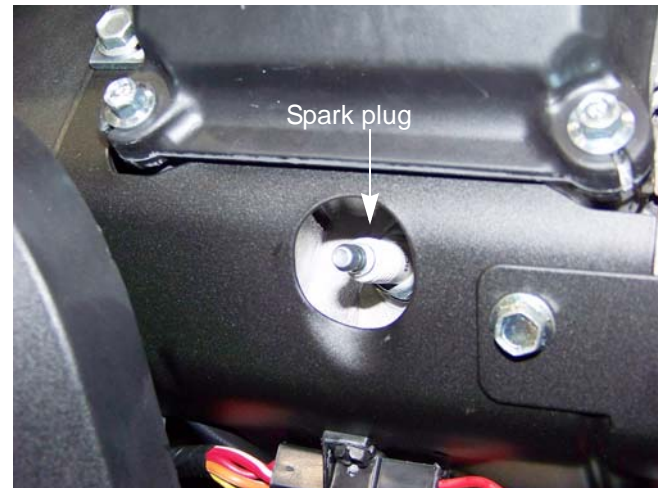

Figure 9.2
3. Remove the spark plugs with a 13/16" spark plug socket. See Figure 9.2.